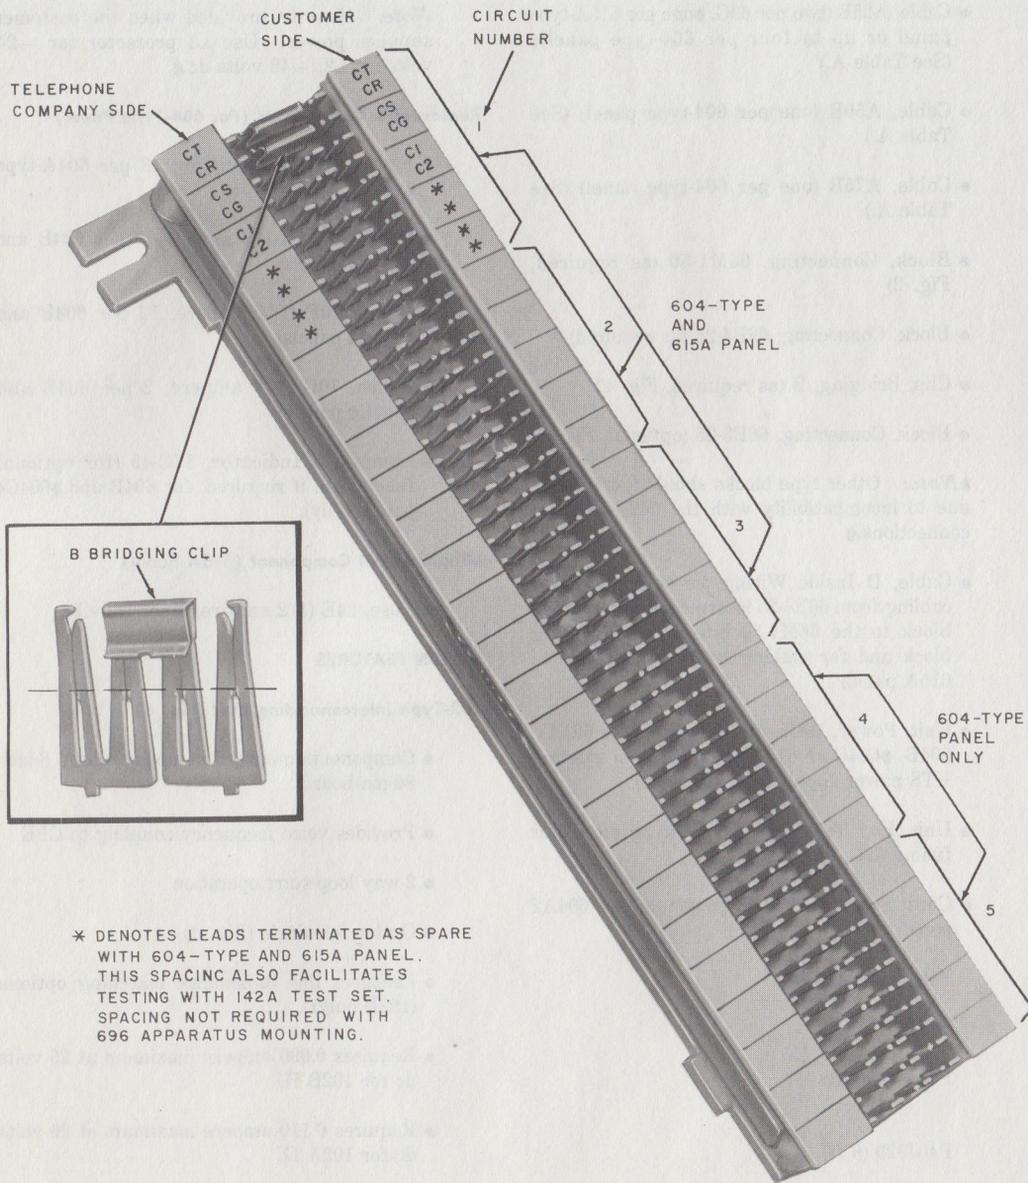

Fig. 2—66M1-50 Interface Connecting Block
- Block, Connecting, 66M1-50 (as required, Fig. 2)
- Clip, Bridging, B (as required, Fig. 2)
**3.04** Terminate the raw end of connector cable 1 on a 66B4-25 connecting block for the CO lines (Table B). Terminate the raw end of connector cables 2, 3, and 4 on the 66M1-50 interface connecting block following the wiring plan shown in Tables C, D, and E. Stencil lead designations on the 66M1-50 interface connecting block as shown in Fig. 2).